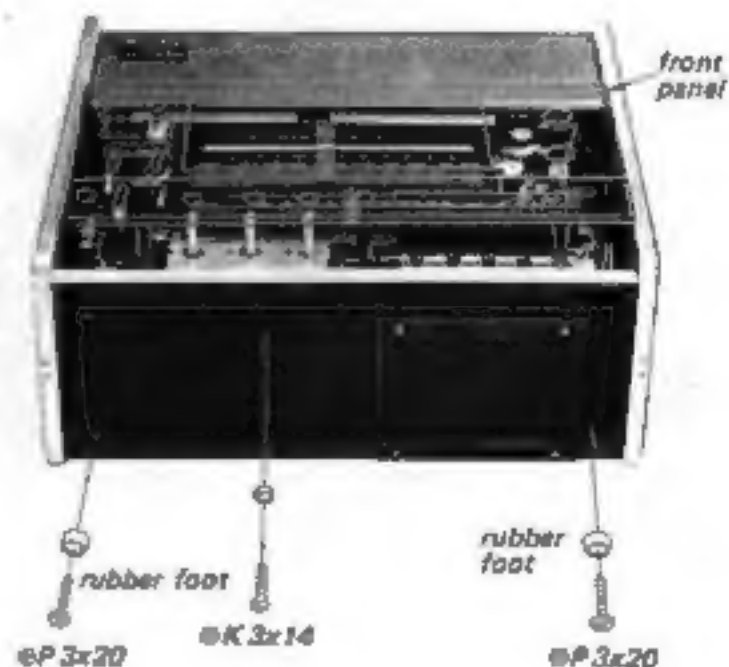

Fig. 2-4
8. Now, the front panel is removable as shown in Fig. 2-4.
9. Remove the three screws and two rubber feet as shown in Fig. 2-4.